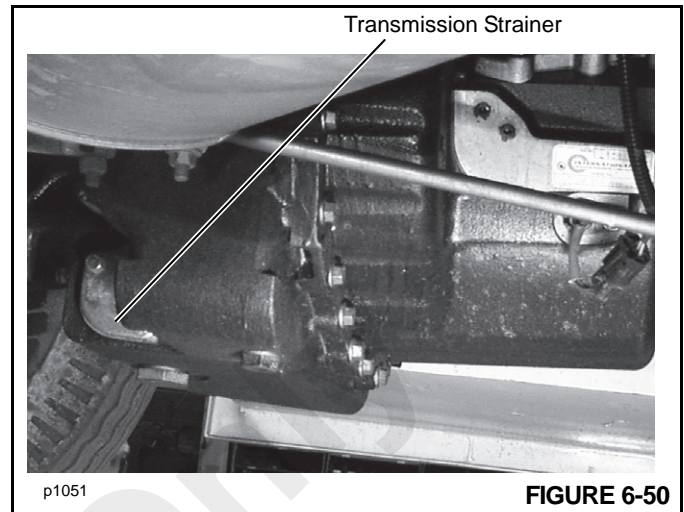

FIGURE 6-50
2. Place suitable container under the strainer (Figure 6-50). Remove the strainer and gasket and drain the oil into the container. Discard the gasket.